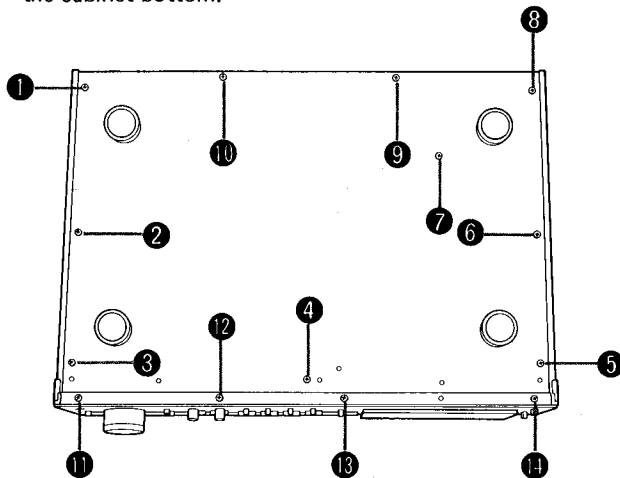
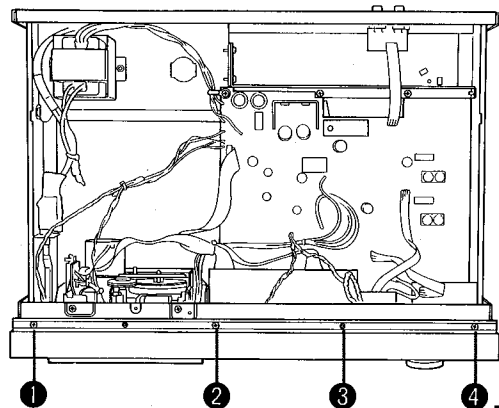

Fig. 2
Fig. 3
② CABINET BOTTOM REMOVAL
Remove the screws ① to ⑩ in Fig.2 and then remove the cabinet bottom.
③ FRONT PANEL ASSEMBLY REMOVAL
1. Remove the cabinet top. (Refer to step ①)
5. Remove the screws ① to ⑭ in Fig.2 and ① to ④ in Fig.3 and then remove the front panel assembly.